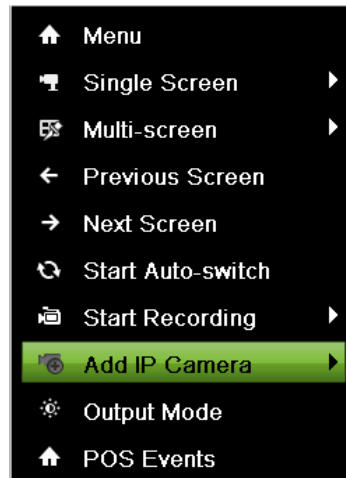

Figure 112 Right-Click Menu
1. Enter the live view menu and right click the mouse, as shown figure 112, in then choose the Add IP camera option.